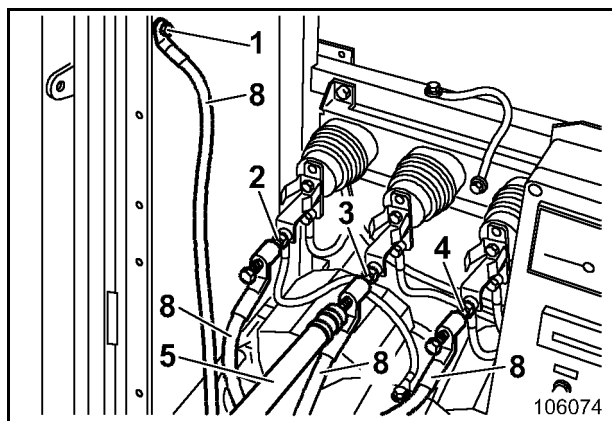

Fig. 4-2:
- Connect to earth and short-circuit: (connect the earthing and short-circuiting line (8, Fig. 4-2:) in the following order to points (1 – 4): first to the fixed point (1), then one after another to the earthing points (2, 3 and 4).